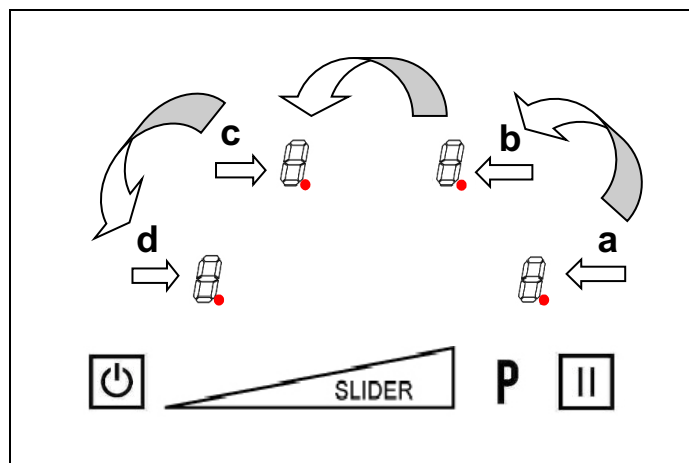

Fig. 17
- 3) With your other hand, press successively and quickly (less than 2s) on each  display. Begin from the front right side and turn contrary clockwise as described on the picture Fig. 17 (a -> b -> c -> d).